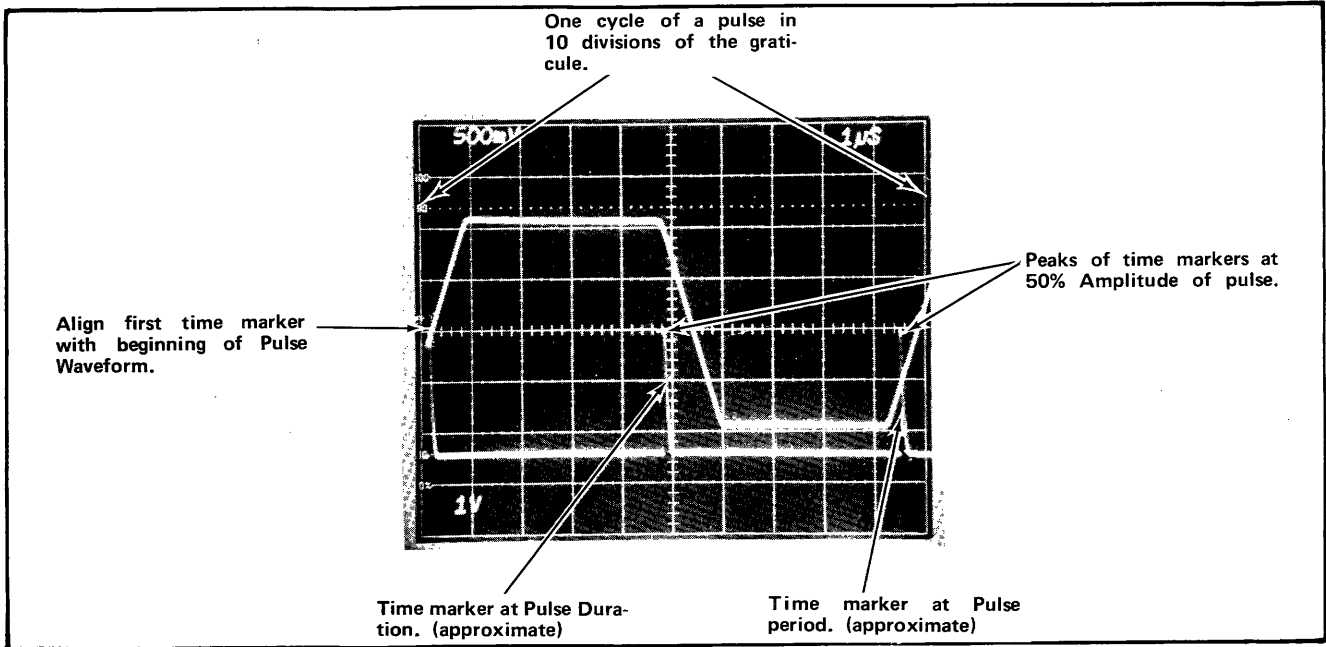

Fig. 1-5. Markers approximately at pulse duration and period.
4. Set the time/div switch to display 1 cycle of a pulse in 10 divisions of the graticule on the oscilloscope, as indicated in Fig. 1-5.
and one at pulse period. Align first time marker with beginning of pulse wave-form. See Fig. 1-5.
7. Use the Vertical Position control of the oscilloscope to set the peaks of the time markers at 50% amplitude of pulse shown in Fig. 1-5.